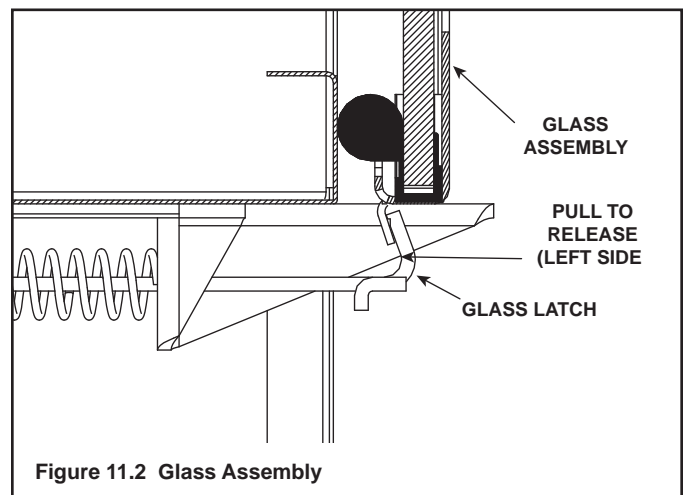

Figure 11.2 Glass Assembly
- Remove glass assembly after all four latches have been released (see Figure 11.2).